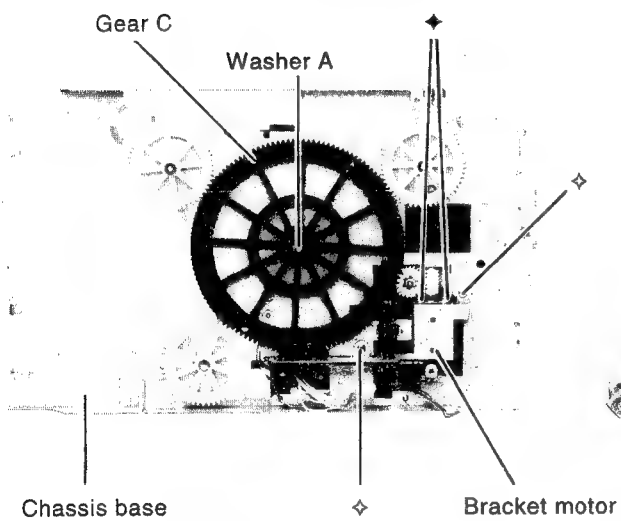

Fig 22
- Elevator motor, pos. M102 (Fig. 22, 23).
- Interrupt pcb (Fig. 22, 23).